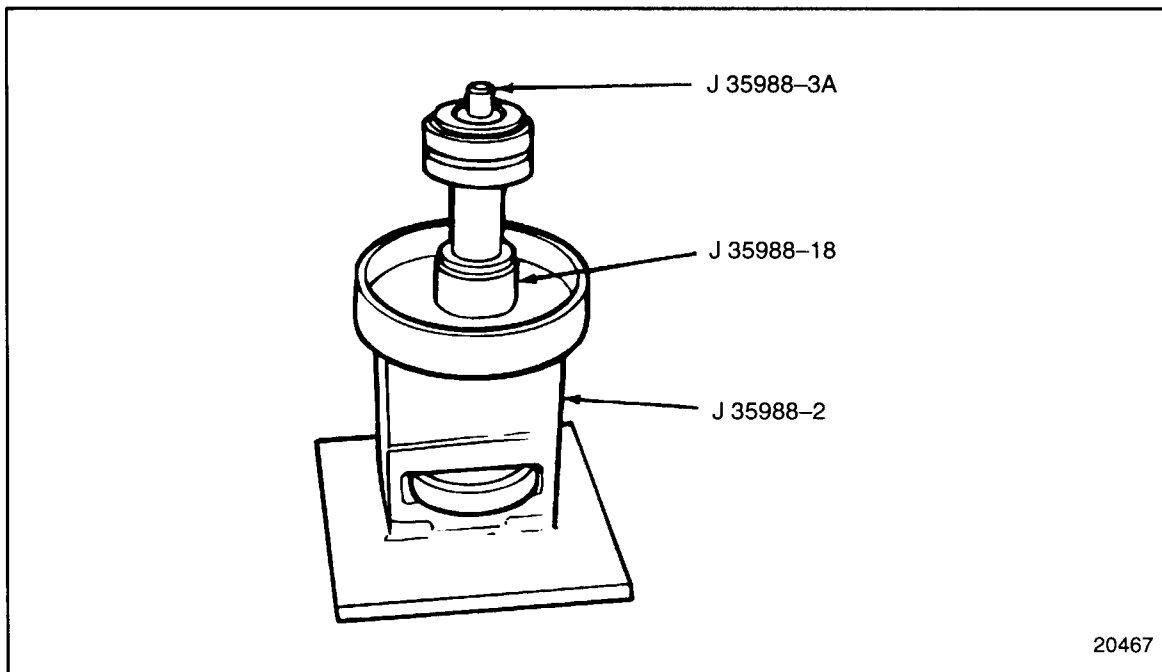

Figure 4-13 **Bearing Placement**
4. Install the extension tool, J 35988-3A part of tool set J 35988-B , on the end of the water pump shaft. Install the assembled bearing packs to the drive shaft. See Figure 4-13.